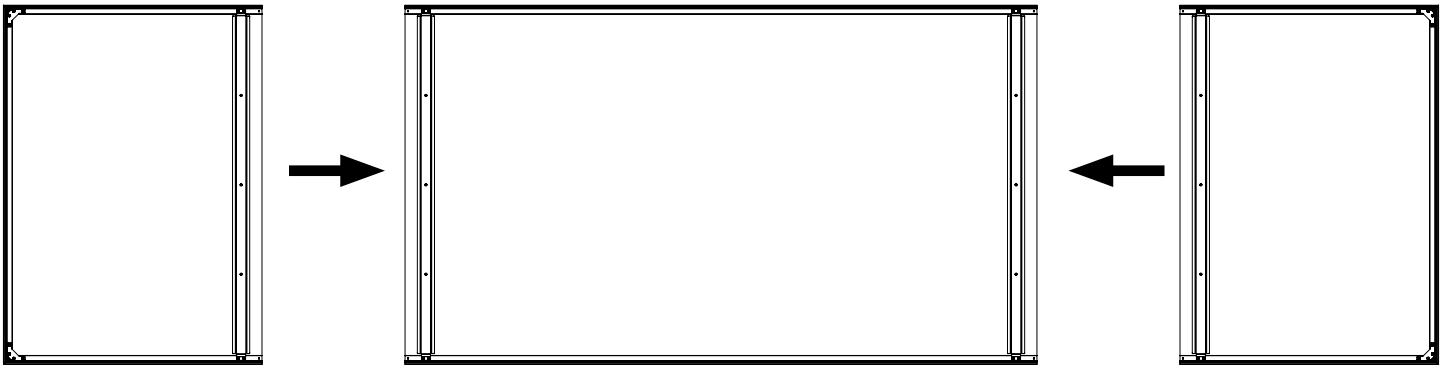
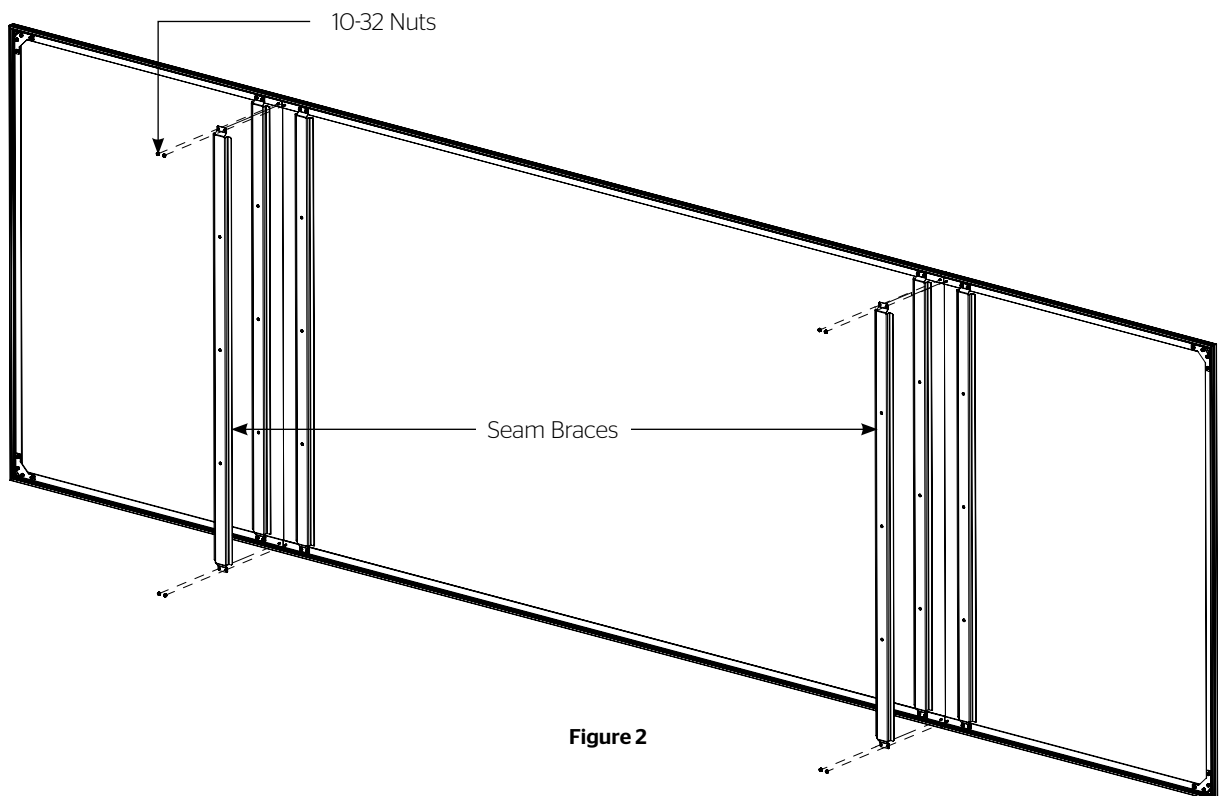

Figure 1
Figure 2
2. Slide all three panels together, aligning the both the top and bottom frames (Figure 1).
3. Find (1) seam brace and remove the release liner from both strips of adhesive tape.
5. Use  $\frac{3}{8}$ " open wrench or socket driver and (4) 10-32 nuts to attach seam brace onto the studs on the top and bottom of screen frame at the panel seam. Tighten all four nuts once attached to the frame (Figure 2).